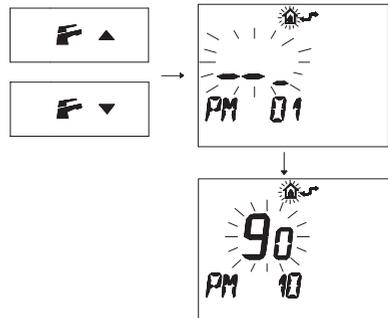

Fig. 7.38
- Press buttons **F**▲ or **F**▼ to display the "PM10" program for selecting the ignition frequency (Fig. 7.38).
In Fig. 7.38 a SET programmed at **90** is displayed corresponding to a re-ignition time of about 3 minutes.